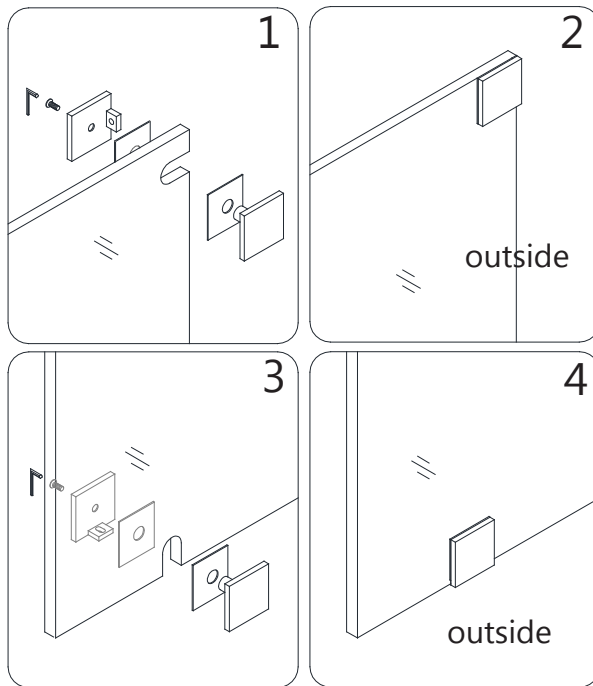

Fig 1
1. Attach the three **Wall Brackets (#19)** to the **Return Panel (#27)**. The bolt side of the **Wall Bracket (#19)** must face inside the shower. **(Fig 1)**